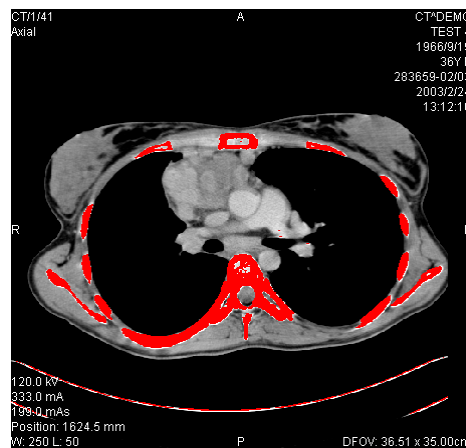

Figure 241 – Segmented image with threshold selection, contouring bones
4. Select the **Lower** and **Upper** grayscale values for the search process. All grayscale values within the selected threshold value range will be considered as matching. This can be seen in the current view – the matching regions are displayed in red while the remainder appears in black (see Figure 241).